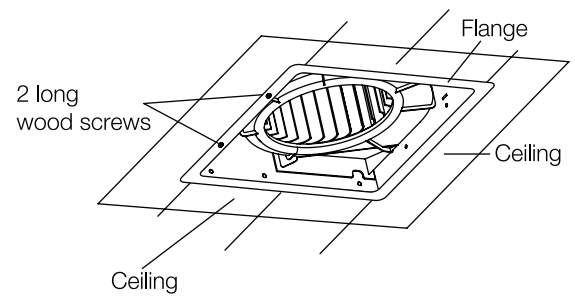

Fig. 4
5. Finish ceiling work. Ceiling hole should be flush with the edge of the flange. Do not flush mount to joist. Flange should be flush with ceiling board. See dimension for ceiling hole on page 4 (Fig. 4). If a joist is present, insert long wood screws through flange and through ceiling to secure fan to joist.